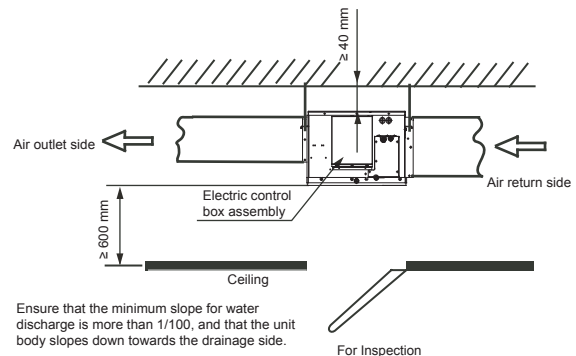
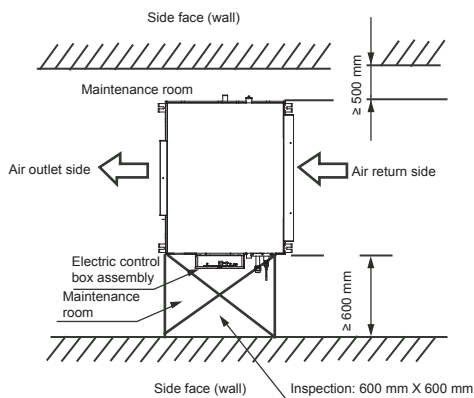

Figure 2.2
Figure 2.1
2.3 The space required for installation (unit: mm) is shown in Figure 2.1 and Figure 2.2: